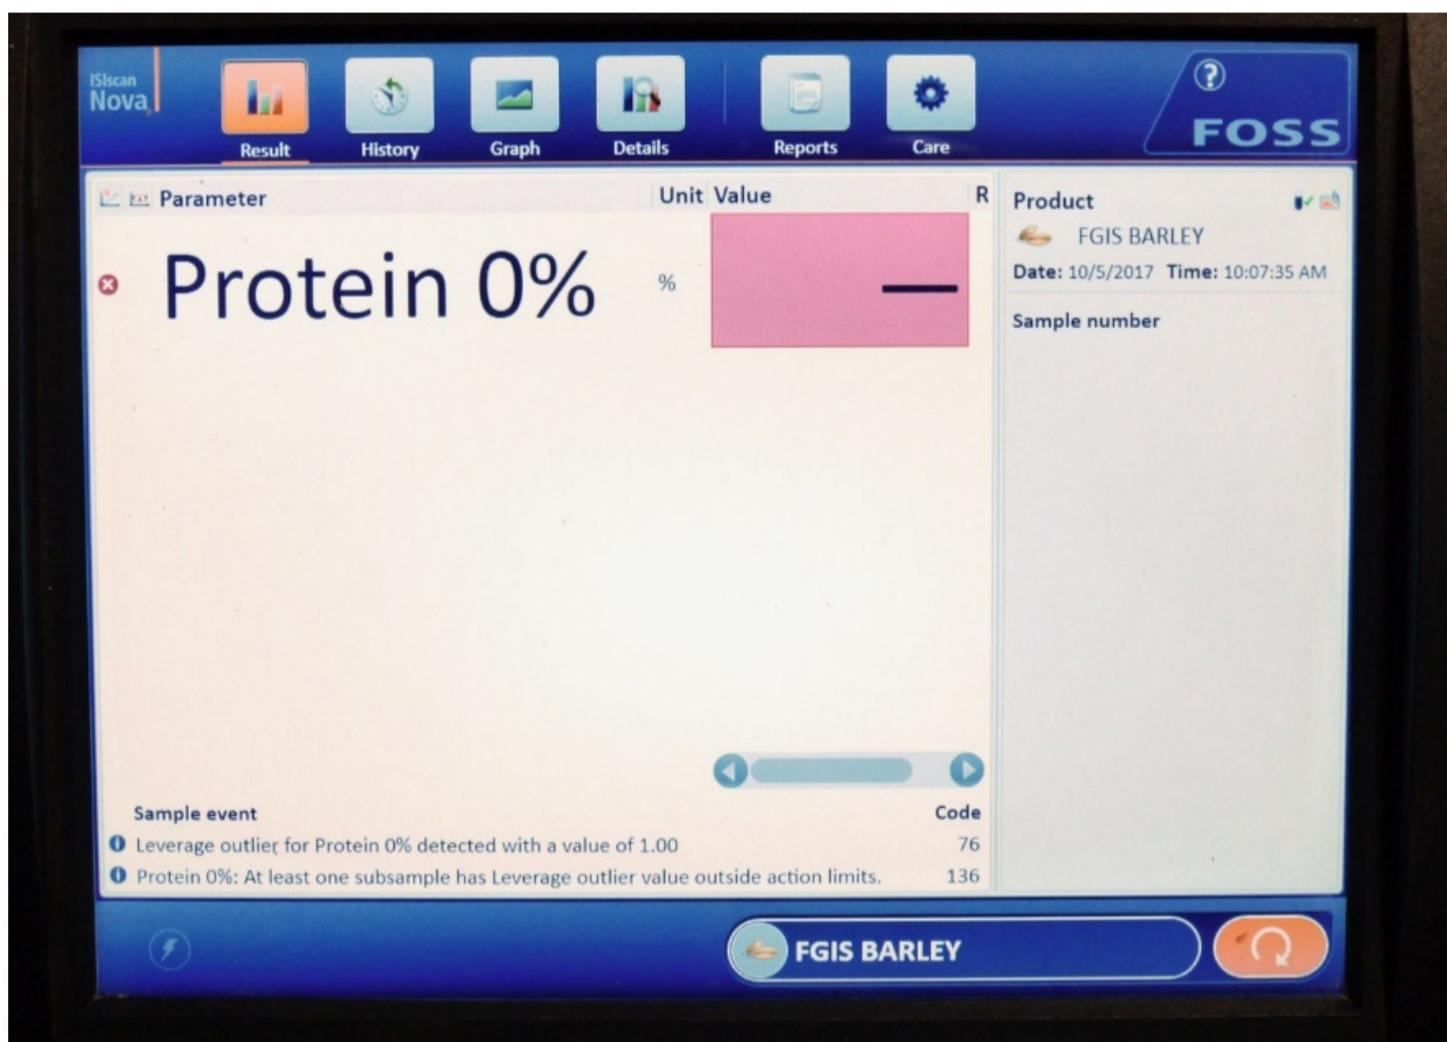

Figure 2. FOSS Nova display showing an analysis with an outlier.
- (1) The Infratec Nova is also designed to give an outlier indication warning that a result may be in error. If an outlier occurs, the instrument will not display a result and the result field will be highlighted in red. Any outlier information will be displayed to the right of the result field and below the results under Sample event, refer to figure 2. Outlier indications should rarely occur.
- (2) Sample Temperature outside range of 0 – 40 °C or 32 – 104 °F for the NTEP only calibrations.
- (b) The Sample event log at the bottom of the display will list messages like the following example. (Refer to figure 2)